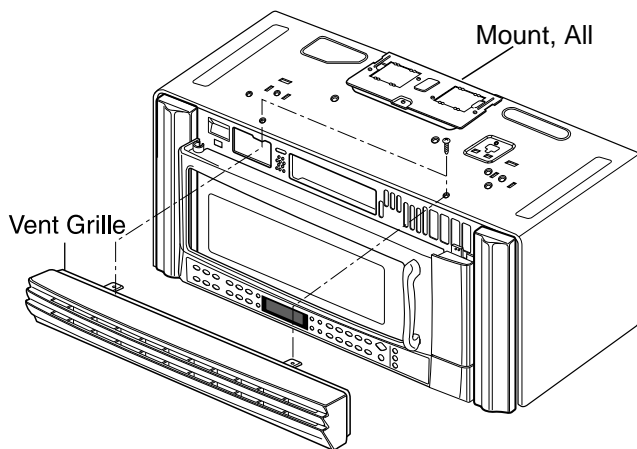
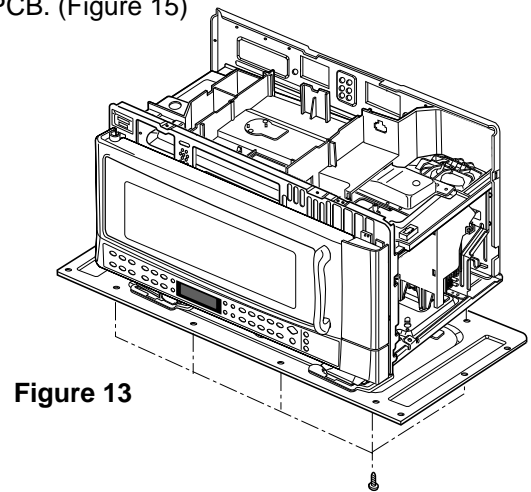
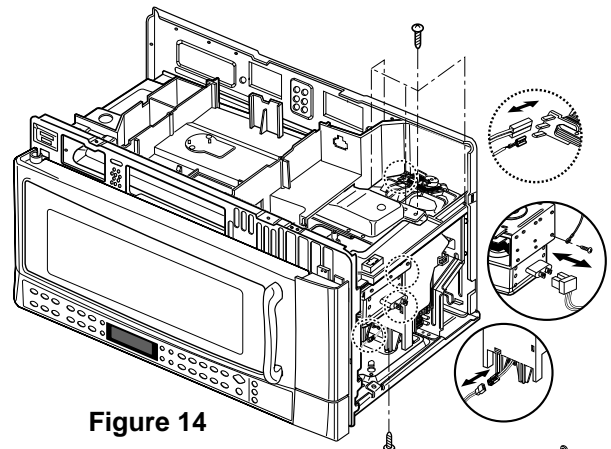
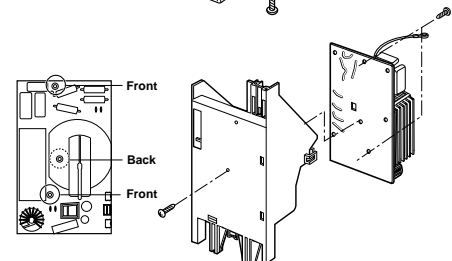

Figure 11
Figure 13
Figure 14
Figure 15
(Figures 11 Through 12)
- (1) Remove the vent grille by loosening two screws. (Figure 11)
- (2) Remove the outcase and inner cover. See page 7-5.
- (3) Remove four tap tite screws securing the magnetron to the wave guide.
- (4) Remove the magnetron VERY CAREFULLY.
(Figures 13 Through 15)
- (3) Remove the base plate by loosening four screws. (Figure 13)
- (4) Disconnect two leadwires of the fan motor assembly.
- (5) Disconnect the leadwire of the inverter PCB and H.V. cable of the magnetron.
- (6) Remove the earth wire screw.
- (7) Remove three screws securing to duct assembly and two screws securing to fan guide. (Figure 14)
- (8) Remove the screw securing to inverter module assembly.
- (9) Push the inverter guide hook and out the inverter module assembly lifting up duct assembly.
- (10) Open the upper inverter guide.
- (11) Remove three screws securing to PCB and pull out PCB. (Figure 15)